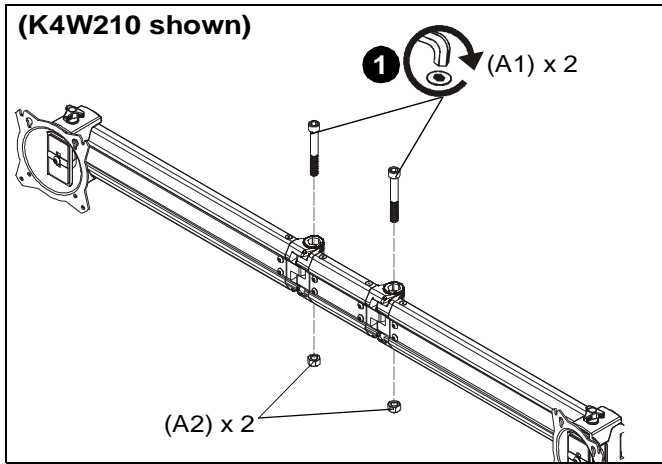

Figure 5
1. Use two 3/8-16 x 2 3/4" socket head carriage screws (A1) and two 3/8" lock nuts (A2) to secure left array arm (X) and right array arm (Y) to array center (AA or BB). (See Figure 5)